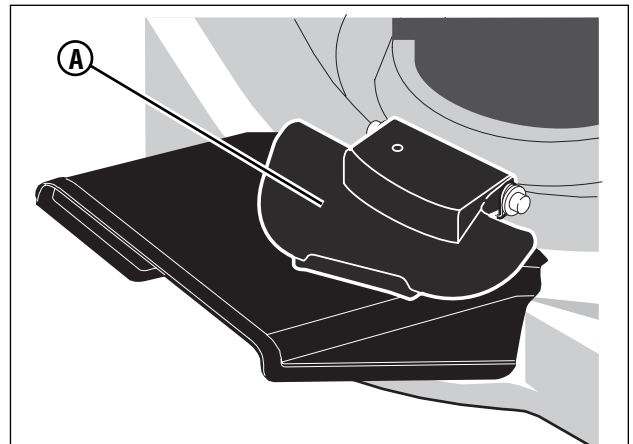

Figure 12: Releasing the mulcher cover
4. Lower the mulcher cover (**A**, **Figure 12**).